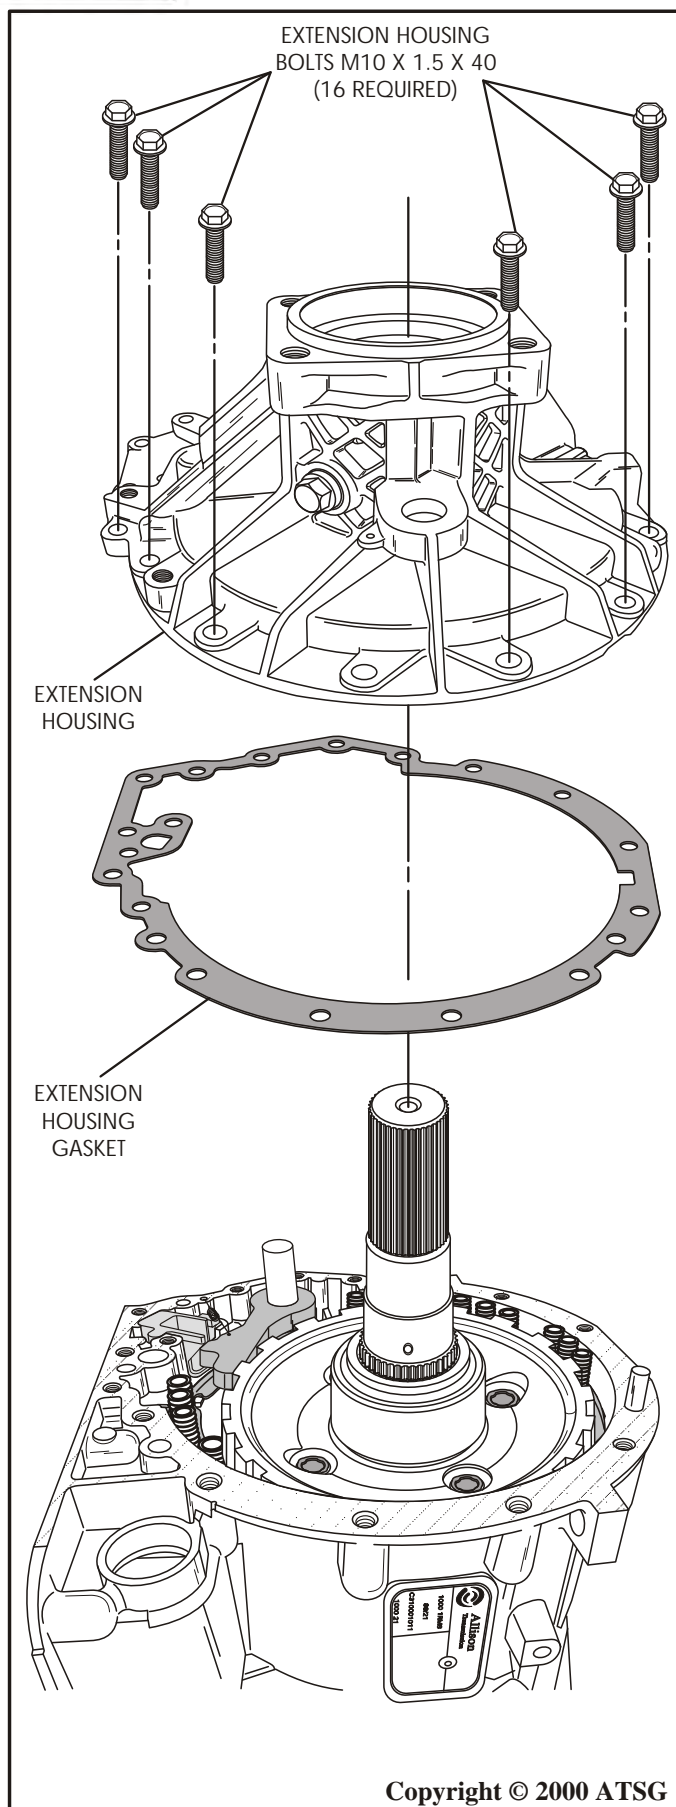

Figure 59
33. Remove the 16 extension housing bolts, using a 15mm socket (See Figure 59).
34. Remove the extension housing assembly and set aside for the component rebuild process, as shown in Figure 59.
35. Remove and discard the extension housing gasket, as shown in Figure 59.